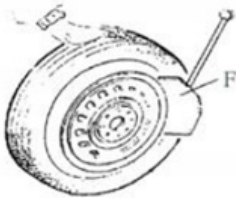

Fig 5
Breaking the tire bead: Ensure the tire is completely deflated. Place the tire against the rubber buffer (S). Position the blade (F) against the bead, approximately 10 mm from the rim edge, as shown in Fig. 5. Press the bead breaker pedal (U) to push the blade into the tire. Repeat this operation at different positions around the tire and on both sides until the bead is fully released.